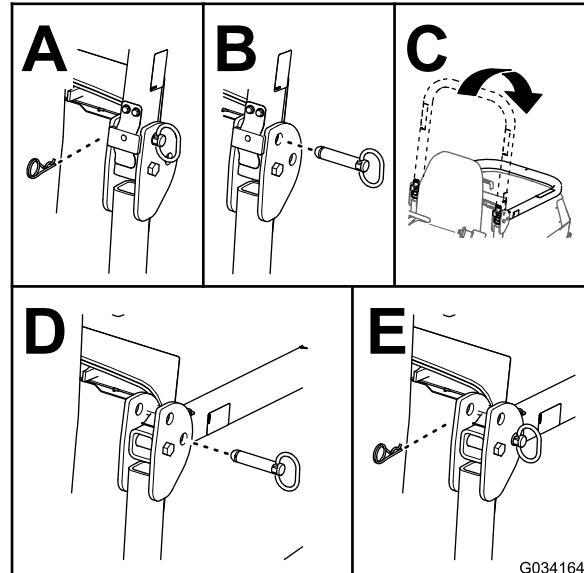

Figure 24
2. Remove the cotter pins and pins from the roll bar (Figure 24).
3. Lower the roll bar and secure it in place with the pins and cotter pins (Figure 24).